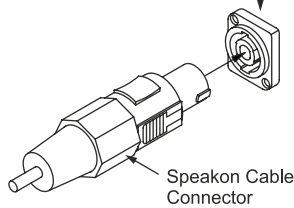
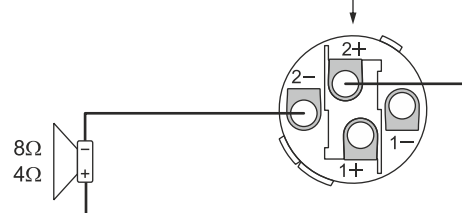

**Fig. 3** Output Connections - Stereo / Mono Mode
**Fig. 4** Output Connections - Bridge Mode
In STEREO / MONO mode amplified signal is available at Pin 1+ & 1- of speakon connector. The output speakon connectors should be wired as per fig. 3 (*Output Connectors for Stereo / Mono Mode*). In BRIDGE mode the output is taken from Pin 2+ and 2- of speakon connector. Output speakon connectors to be wired as per fig. 4 (*Output Connections for Bridge Mode*).
Amplified signal is available at Pin 1+ & 1- of speakon connector. The output speakon connectors should be wired as per fig. 3 (*Output Connectors for Stereo / Mono Mode*).
- Connect a speaker system on the output terminal of each channel. It is recommended to use the speakon connectors and wire these as per fig. 3 (*Output Connections for Stereo / Mono Mode*).
- Connect a speaker system (not below 4 ohm) on the speakon output of channel A only. It is recommended to use the speakon connectors and wire these as per fig. 4 (*Output Connections for Bridge Mode*).
- One number of full range loudspeaker system SPX-800 can be connected to each of the output channels of amplifier 1. The output speakon connectors should be wired as per fig. 3 (*Output Connections for Stereo / Mono Mode*).
A & B outputs of amplifiers 2 respectively. Output speakon connectors to be wired as per fig. 4 (*Output Connections for Stereo Mode*).
- Output speakon connectors to be wired as per fig. 3 (*Speakon Connections for Stereo / Mono Mode*).